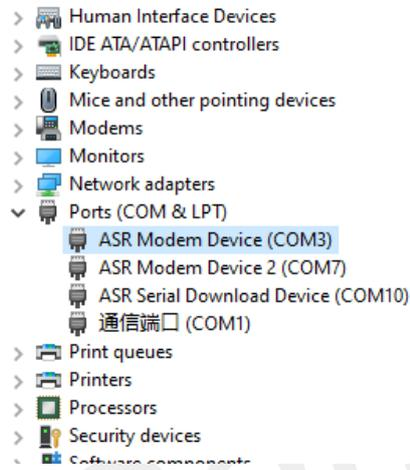

Figure 12: Port list
11. Figure 12 shows that three drivers are installed successfully.